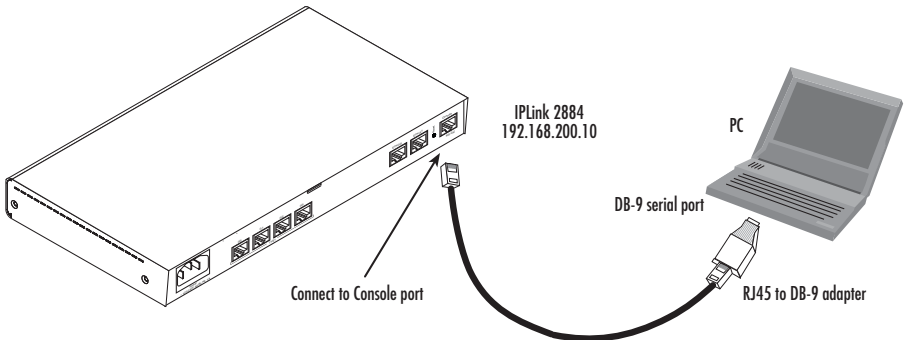

Figure 4. Connecting to the PC's Console port
1. To access the OnSite configuration via the console port, connect the DB9-RJ45 adapter to the DB-9 serial port on the PC or dumb terminal. Use the RJ45 straight-through cable between the adapter and the console port on the 2884. (see Figure 4).